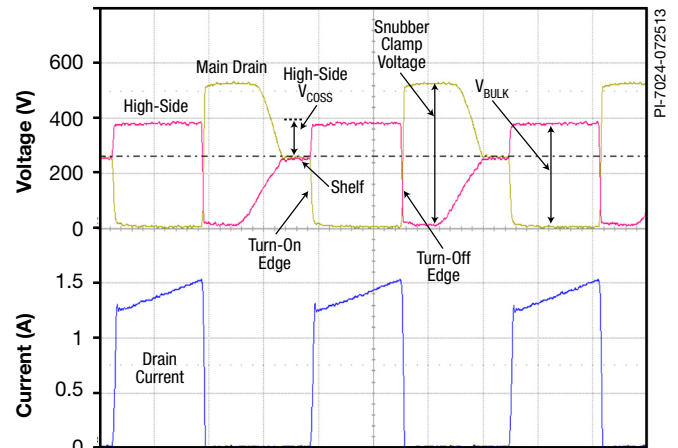

Figure 28. Typical Full Load Waveforms of the Main Drain, High-Side MOSFET Source, and Drain Current.
Repeat the measurements at full load. Be cautious of over-heating the power supply and use a strong fan. Measure the source voltage (HS) of the high-side MOSFET at turn-on for each steady-state switch cycle (Figure 28). It should be $< 40\%$ of the bulk voltage. Calculate and verify the K_p from the current waveform and verify with the spreadsheet. Also check the peak current at peak load – do not dwell at peak load for more than several seconds to prevent over-heating.